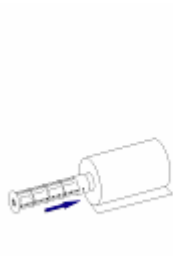

Figure 2.5.1
- 1) Pull the manual bushing of ribbon output shaft slightly, then take off ribbon output shaft and put it into ribbon core axis according to the arrow in the figure as below. (See figure 2.5.1)